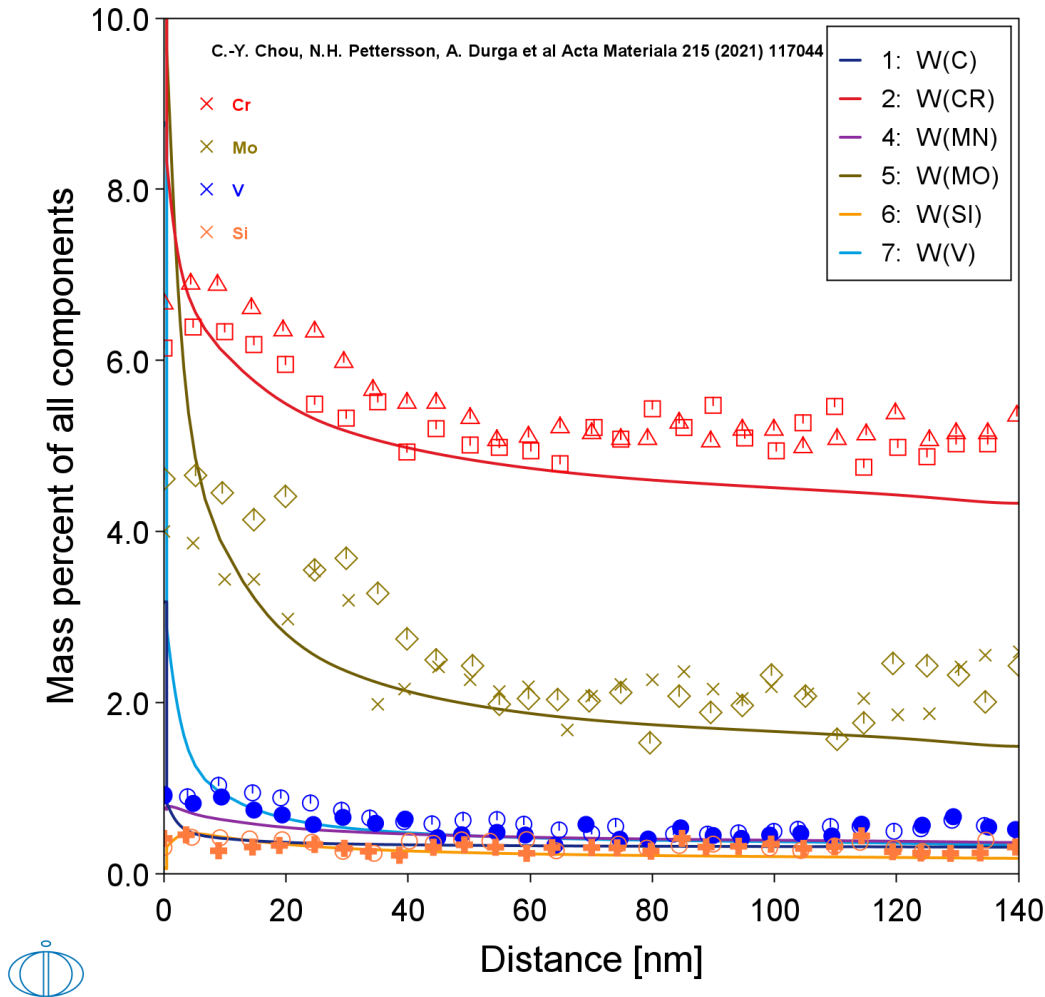

Figure 31: The simulated segregation profile with overlaid experimental STEM-EDS line scans from C.-Y. Chou et al. [2021Cho].
The calculated segregation profiles are finally compared with the STEM-EDS line scans as shown in Figure 31.
- **Plot** results: After completing the set up and performing the calculation, to view the matching name of the node on tab(s) in the **Visualizations** window, click a **Plot Renderer** node in the **Project** window or click the tabs individually in the **Visualizations** window. See Figure 31.